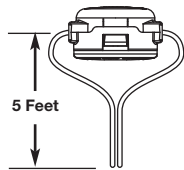

Fig. 17
- Using 10.5 ft. (3.2 m) of 0.095 in. (2.41 mm) replacement line push an end of the line through one of the eyelets until it protrudes through the opposite side. Continue pushing or pulling the line until the line is evenly distributed, so approximately 5 ft. (1.5 m) is visible from both sides of the cutting head. (Fig. 17)